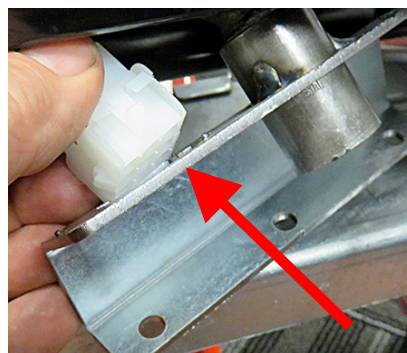

Figure 19
19. Disconnect the 9-pin bulkhead connector from the 1088450 dispose assembly (see Figure 19).